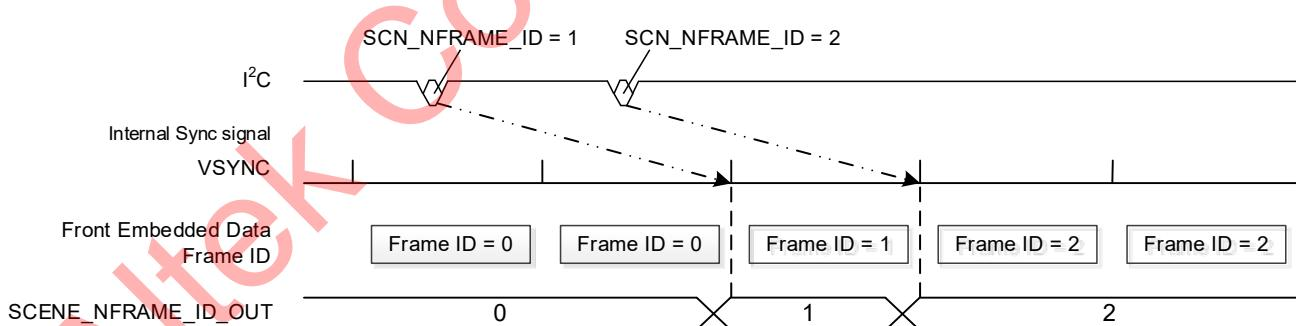
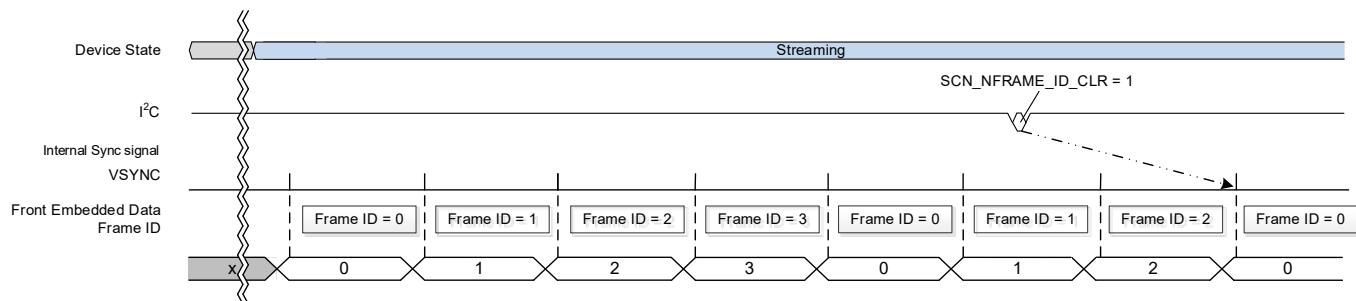

Figure 6-24 Example of the Sensor’s Operation When the Host Directly Specifies the Frame ID (Initial Value of the SCN_NFRAME_ID = 0)
Figure 6-25 Automatic Incremental Method When SCN_NFRAME_MAX = 4
- The VSYNC signal in “**Figure 6-24**” and “**Figure 6-25**” is the internal signal that indicates the time when the frames are switched.